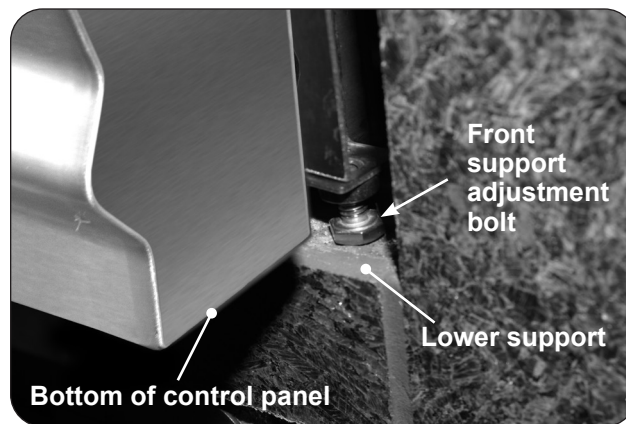

Fig. 26-1 Front support adjustment bolts
2. Rotate the front support adjustment bolts (up or down) until the grill hanger rests flush on the countertop, AND, the adjustment bolts are touching the supporting structure found at the bottom of the cutout (lower support). Use a 7/16" open-end wrench as needed. See Fig. 26-1.